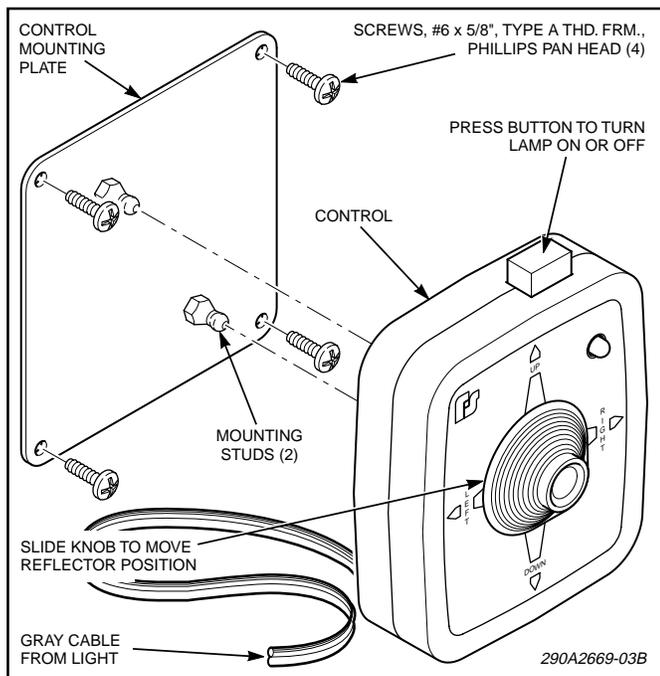

Figure 1.
### B. Snap Mounting (see figure 1).
A. See figure 1. To move the spotlight reflector, slide the round gray knob (located on the control's face) in the desired direction. It is not necessary to illuminate the lamp to move the reflector.
B. See figure 1. To illuminate or extinguish the lamp, press and release the gray button on the top of the control. The lamp indicator will illuminate when the spotlight's lamp is illuminated.